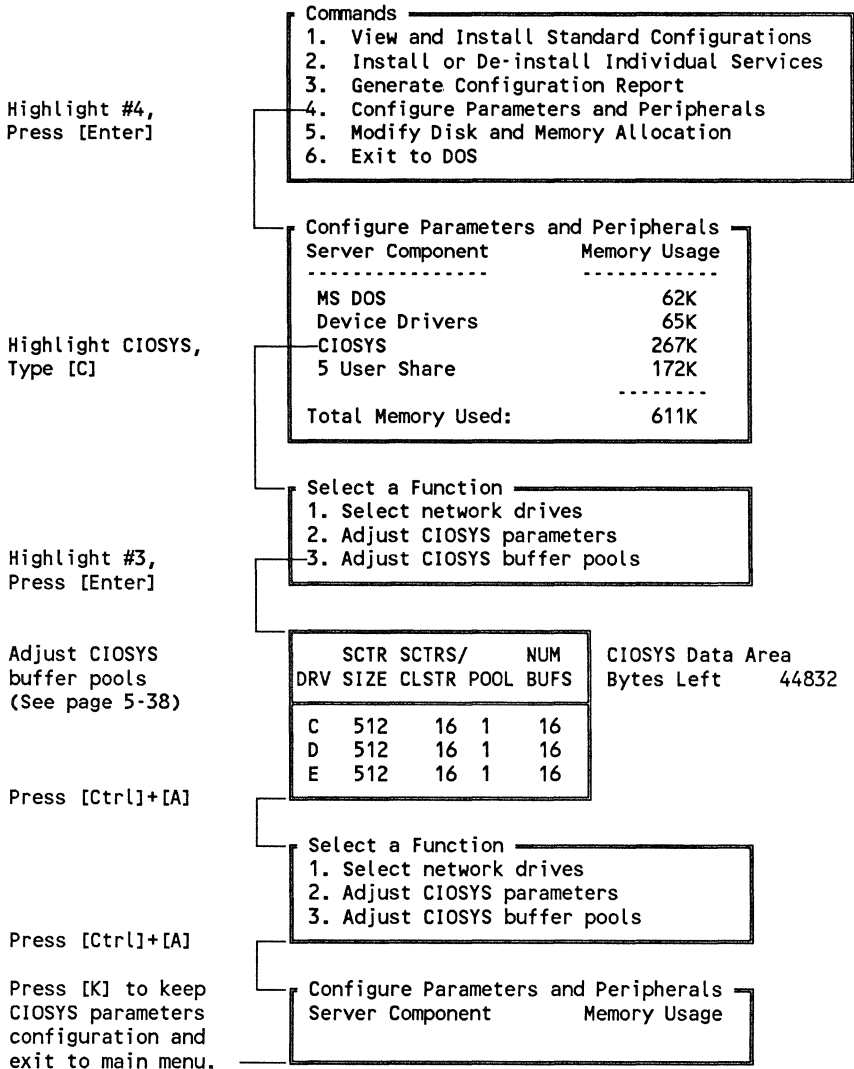

Figure 4-6. How to Adjust CIOSYS Buffer Pools
Configuration 1 will only fit on a 3Server3. Configurations 2 - 10 will fit on a 3Server or 3Server3. If you are installing on a 3Server3, or a 3Server3 with a CacheCard, make sure that you assign the remaining memory to CIO SYS buffers. Refer to Figure 4-6.
- ▶ Reduce CIOSYS buffers if you installed services individually and if the 3INSTALL main menu displays memory usage as OVER USED (see Figure 4-6).